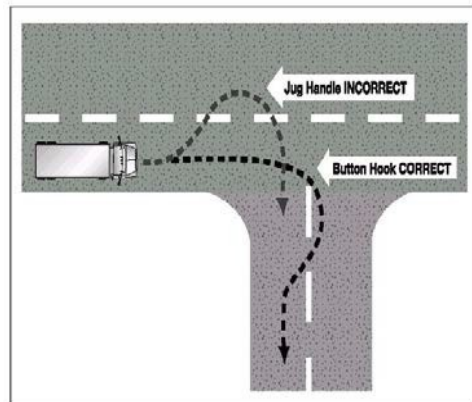

Figure 2.13
- ☐ If you must cross into the oncoming lane to make a turn, watch out for vehicles coming toward you. Give them room to go by or to stop. However, don't back up for them, because you might hit someone behind you. See Figure 2.13.